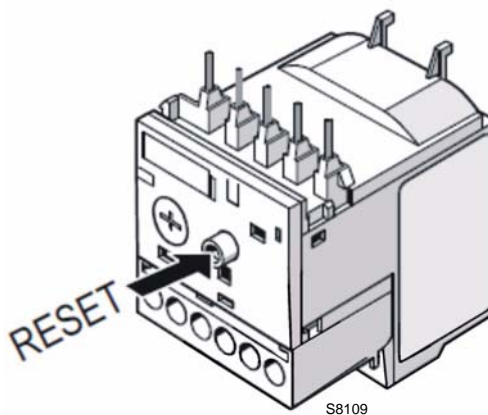

Fig. 30
- To reset, in the case of an intervention of the thermal relay, press the button “RESET” (Fig. 30).